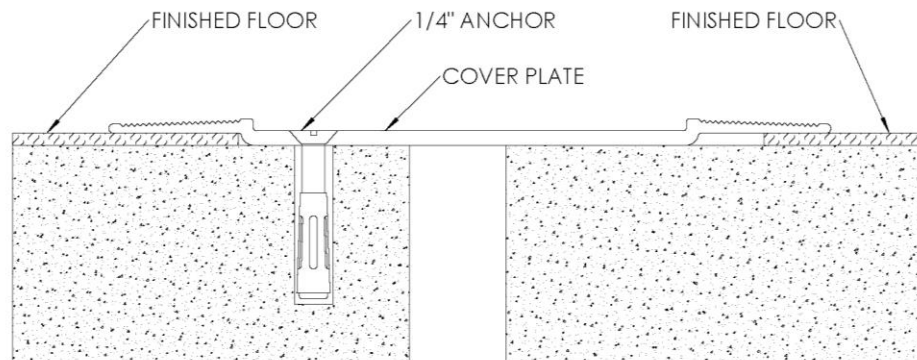

FIGURE 3
3. Position the cover plate into position and attach with the supplied 1/4" anchors through the previously drilled holes. The wing on the cover plate should overlap the finished floor on the non-anchored side by 5/8" and the flooring should butt against the offset on the anchored side. **See Figure 3.**